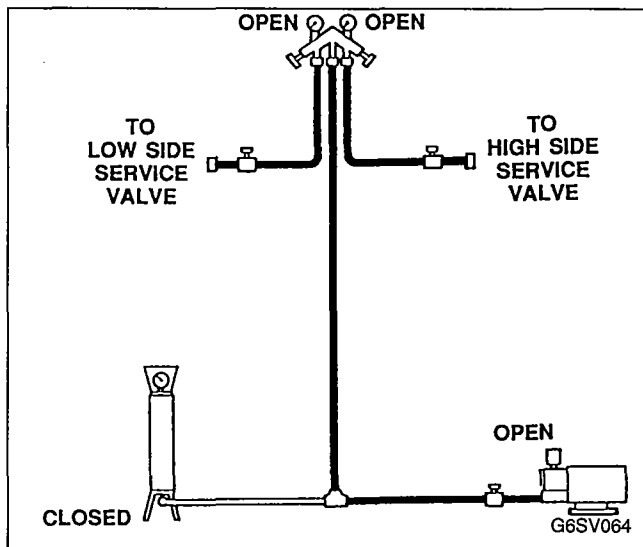

FIGURE 69. EVACUATION OF SELF-CONTAINED SYSTEMS
- b. Discharge service valve.Connect manifold gauges, dial-a-charge (or weigh-in method), and vacuum pump to ice machine, Figure 69.
2. Open (backseat) high and low side ice machine service valves. Open vacuum pump valve. Open high and low side on manifold gauges. Refer to Figure 69.